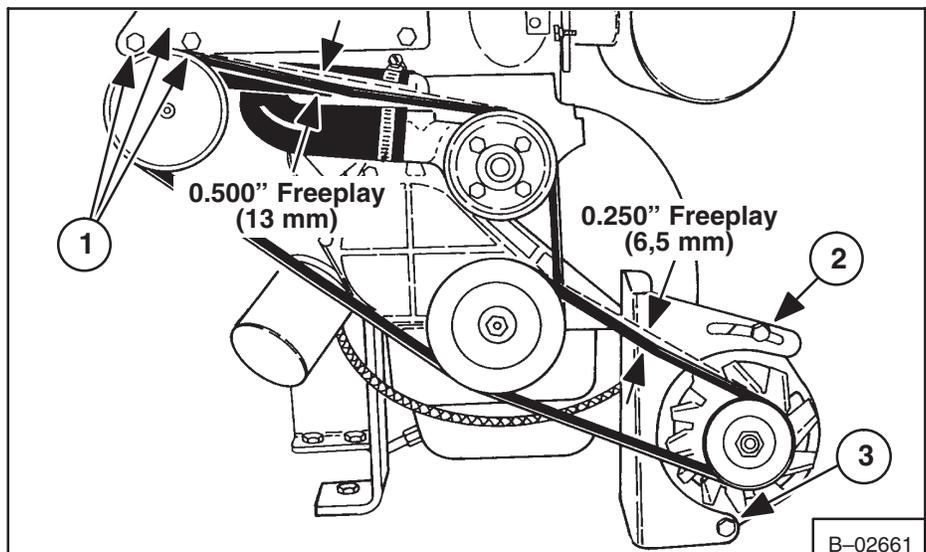

Fig. 1-32 Drive Belt Adjustment (642)
3. Loosen the bolts for adjustment of the governor (Fig. 1-32, Item 1). Use a bar and adjust belt tension to 0.500 inch (13 mm) movement at the middle of the belt with 20 lbs. (9,07 kg) pressure (Fig. 1-32). Tighten the bolts.
4. Loosen the bolts for alternator adjustment (Fig. 1-32, Items 2 & 3). Move the alternator until the belt has 0.250 inch of movement at the middle of the belt with 20 lbs. (9,07 kg) pressure. Tighten bolts.